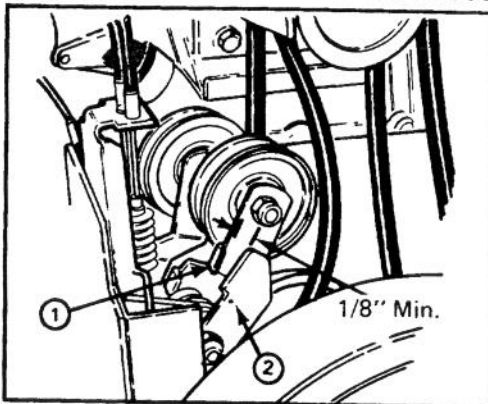

Figure 22
1. Remove (3) flange head capscrews securing belt cover to engine frame and slide belt cover up cables.
2. Check idler and brake adjustment. There should be a minimum clearance of 1/8" between tab on impeller idler arm and brake arm (Fig. 22). If there is less than 1/8" clearance, belt must be replaced.